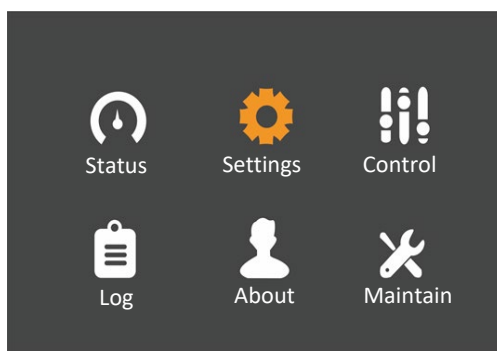

Figure 3-10 Main menu
1. At the main menu screen, press the  or  key to switch the cursor to select 'Settings', then press the  key to confirm it. See Figure 3-10.